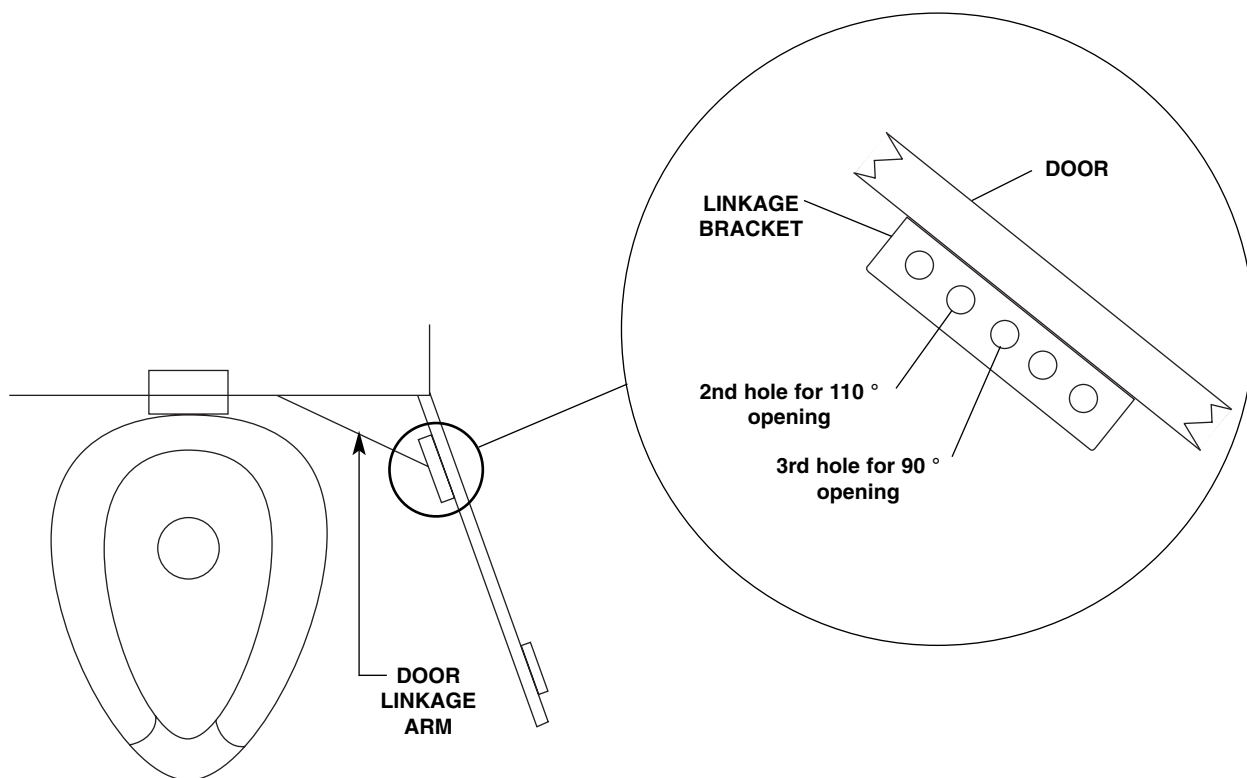

Figure 18
1. Reinstall the door linkage by loosely fastening the door linkage rod with the supplied nut onto the linkage bracket (see Figure 18).
2. Close the door. If the water closet contacts the back wall before the door closes, adjust the door linkage by turning the door linkage rod so that the door closes before the water closet comes in contact with the back wall (see Figure 18). If no adjustment is needed, tighten the nut securely on the linkage bracket.
NOTE: The linkage arm has a factory-set length. When the door linkage is fastened to the linkage bracket, the door will open 110 degrees. If the PATIENT CARE UNIT is installed against a corner wall, make sure the door does not come in contact with the wall, or the water closet does not come in contact with the back wall when the door is opened or closed. Make adjustments, if necessary, and refer to Figure 18 with inset.